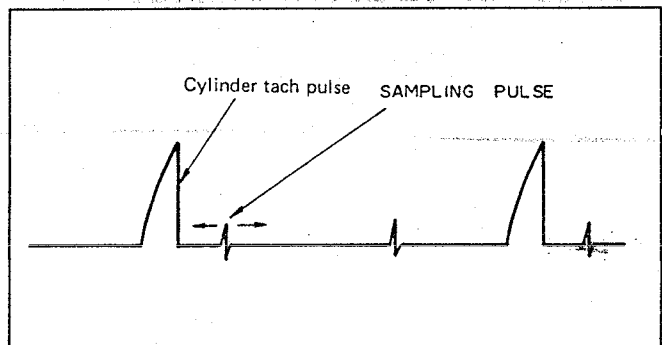

Fig. 4-103 Cylinder Motor Speed (During short circuiting)
4. Adjust the CYLINDER MOTOR SPEED control (RT604) so that the sampling pulse stands still or moves slowly on the cylinder tach pulse. (See Fig. 4-103)